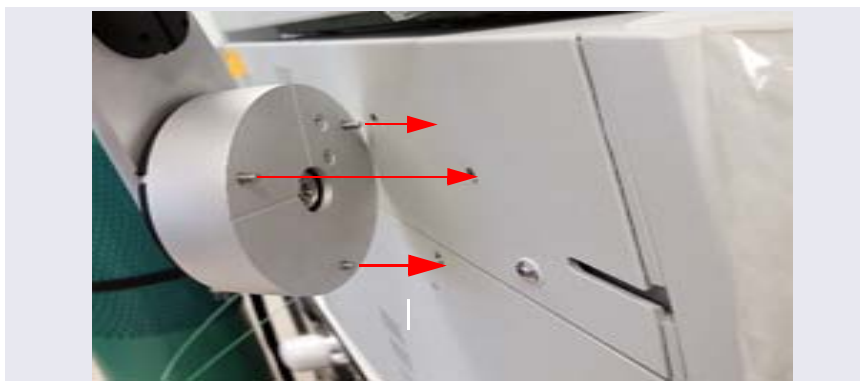

Figure 3-29. Tablet Arm/Holder Mounting Screws on the DC
- b. Align the three mounting screws on the base of the mounting arm with the three mounting holes on the side of the DC (see Figure 3-29).